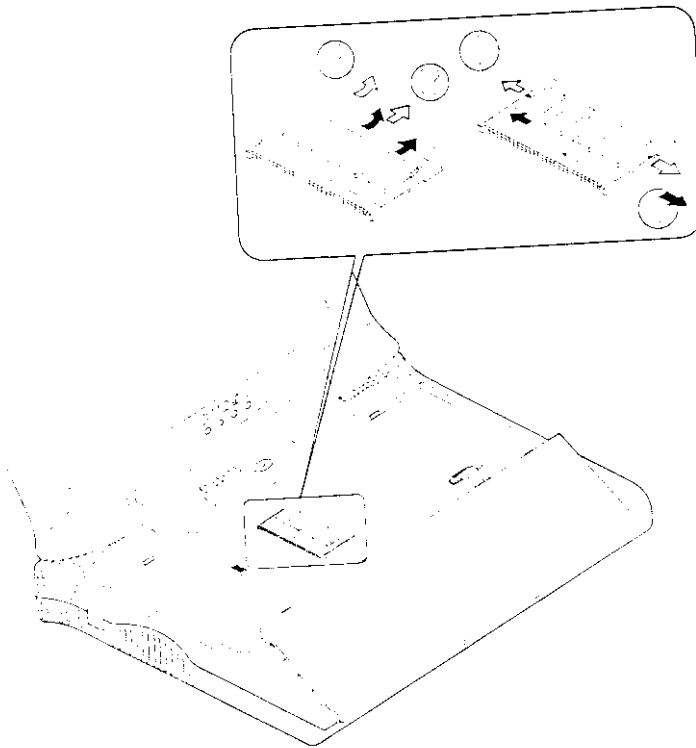

Figure 2-8
4. Gently pull the two latches on both ends of the module outward. The module will pop up (Figure 2-8).